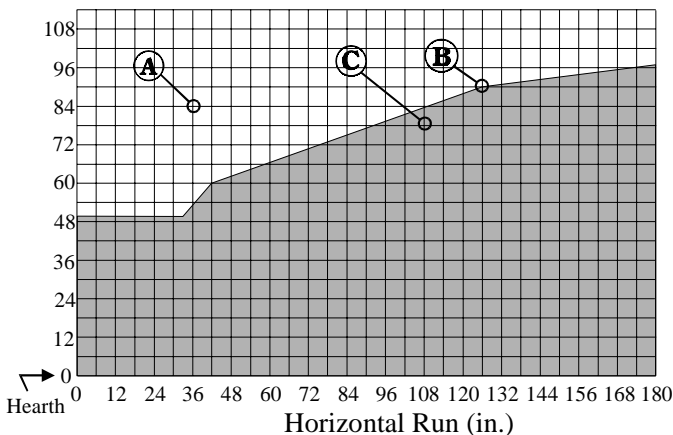

Figure 18a. ME38-DV-2 Rear Vent Venting Graph
- your vent run must fall within the limits set by Figure 18a
Measure the vertical height from the fireplace hearth to the centre of the termination and the horizontal run from the fireplace flue collar to the wall flange of the termination. Plot on the Venting Graph (Fig. 18a) with an 'X'.
NOTES: All dimension lengths for vertical or horizontal runs are measured from center of the vent pipe. Venting runs *must* fall within the limits set by the venting graph (see Figure 18a).